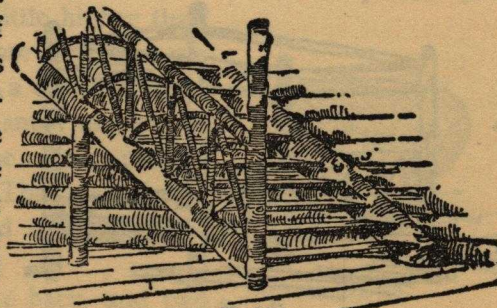

FIG. 38.
**STAIRS.**—Make the supports of strong timbers and frame or cut the steps into them. The newel may be made of a rough stick and the rails of rough poles; the balusters, too, may be rustic. The newel post might be made to run to the ceiling and a screen formed of rustic work (Fig. 38). To do this, fill in the triangular space between the posts, the ceiling above and the outside supporting timbers of the staircase with small branches placed like lattice work, or in some other geometrical pattern.